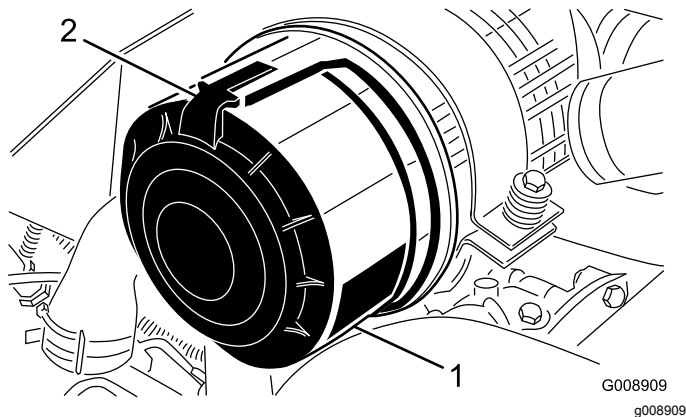

Figure 87
1. Release the latches securing the air-cleaner cover to the air-cleaner body (Figure 87).